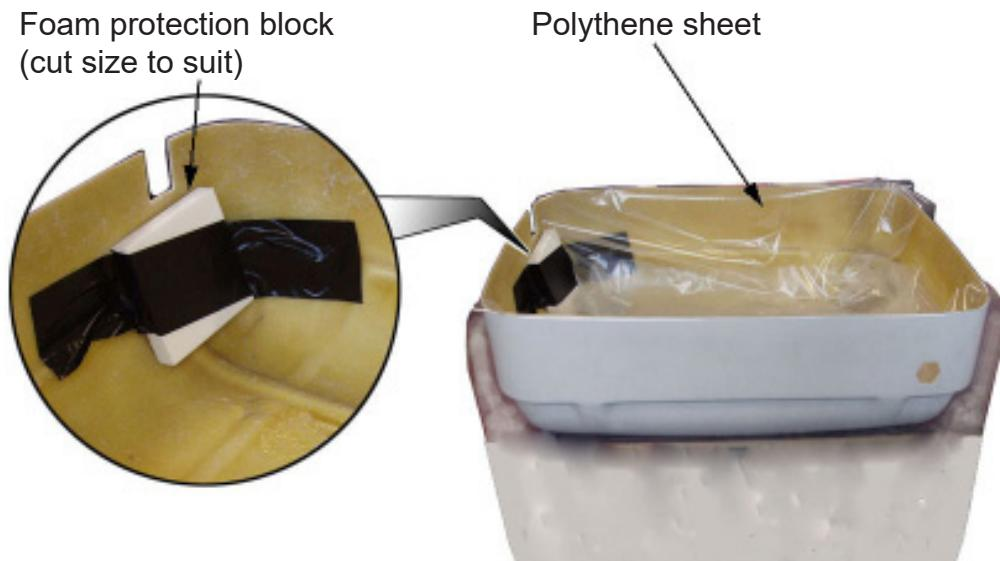

FIGURE A7-3
Refer to FIGURE A7-3. This protective foam prevents the cylinder operating head from impacting the container side, during handling and deployment.
- (c) Line the bottom half of the container with a polythene sheet. Refer to FIGURE A7-3.